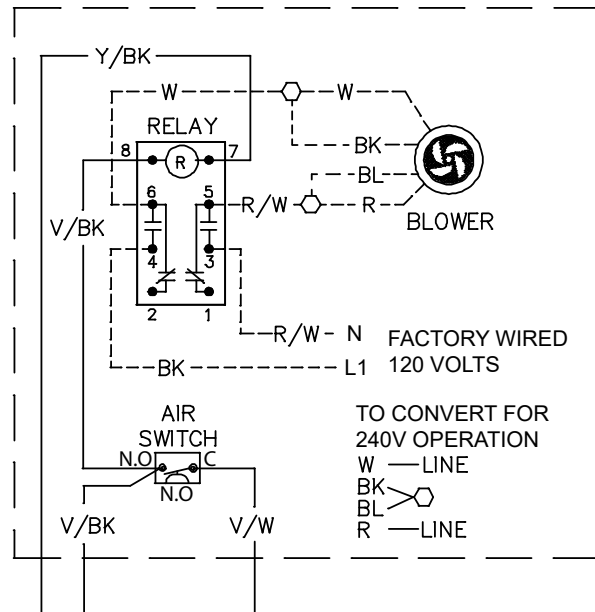
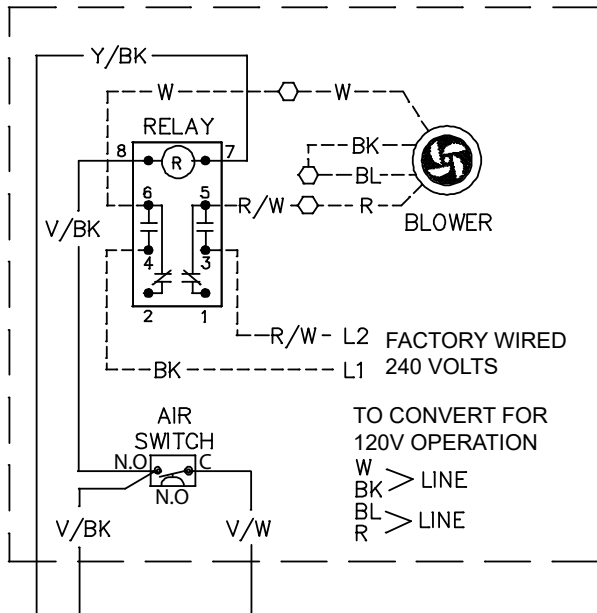

Figure 16. 120VAC
Figure 17. 240VAC
- 14. Wire the heater power lines along with the D-2 Power Vent power lines to the supply power per **Figure 16** for 010744 or 010745, and per **Figure 17** for 009832 or 009833. If the D-2 does not match the power supplied, re-wire the blower for the correct voltage.